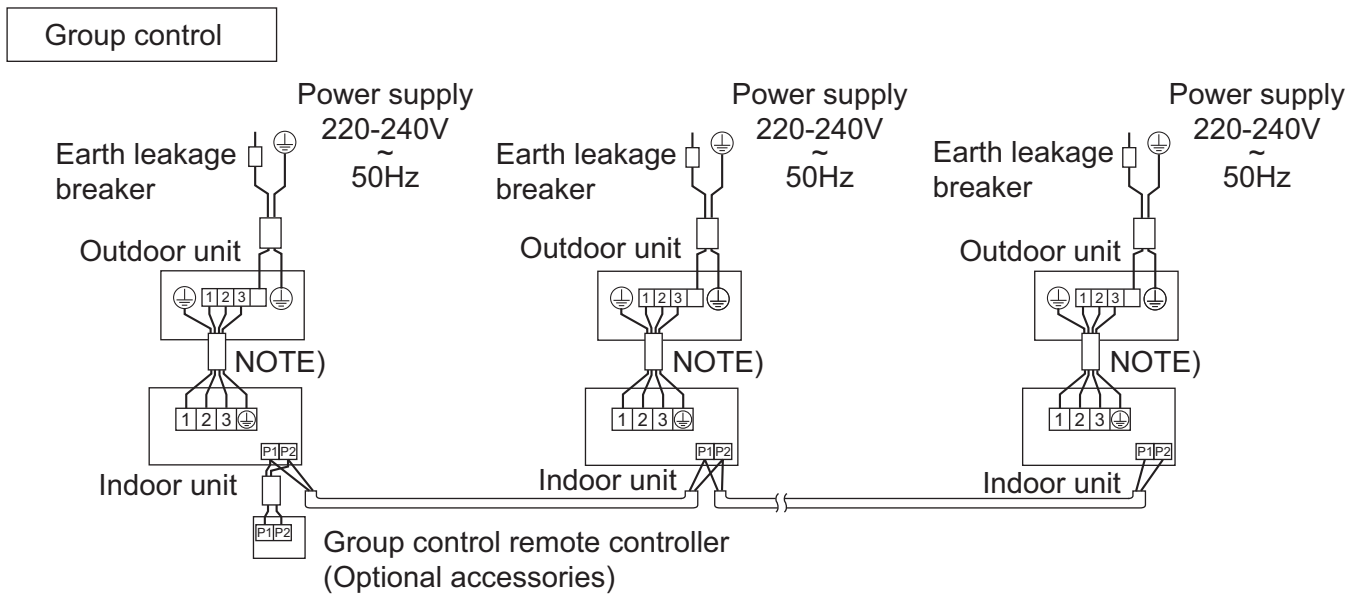

Fig. 42
- **Group control:** 1 remote controller controls up to 16 indoor units (All indoor units operate according to the remote controller). (Refer to Fig. 42)
- (1) Remove the control box cover.
- (2) Connect crossover wiring between the terminals (P1, P2) inside the control box for the remote controller. (There is no polarity.) (Refer to Fig. 42 and Table 2)